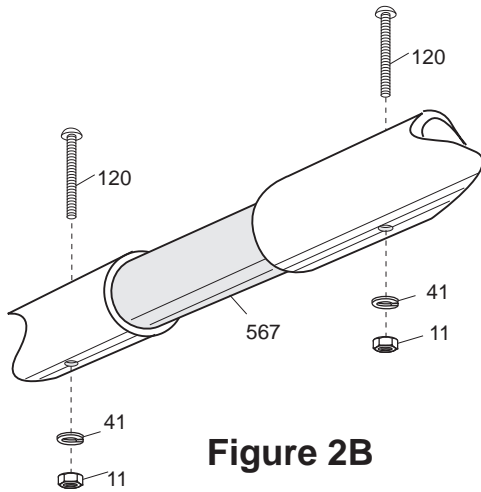

Figure 2B
Figures 2A and 2B show the steps required for element assembly. For elements 2 and 3 slide EB sections over fiberglass insulator (566) until #8 screw holes line up (Figure 2B) . Insert screws (120) through holes and secure with lock washer (41) and nut (11). Pay close attention to all dimensions shown. Dimensions shown for elements #1, #4 and #5 are to the midpoint of tube EA. Dimensions for elements #2 and #3 are to the end points of tube EH.